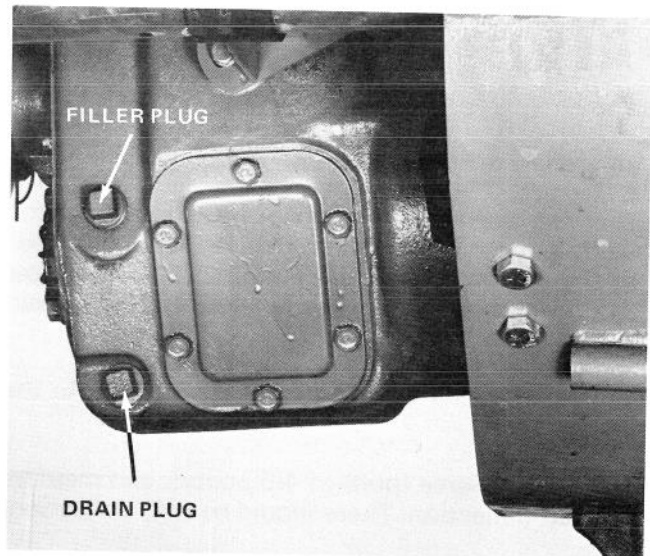

Figure 31
2. Remove the filler plug and check the fluid level. (See Figure 31).